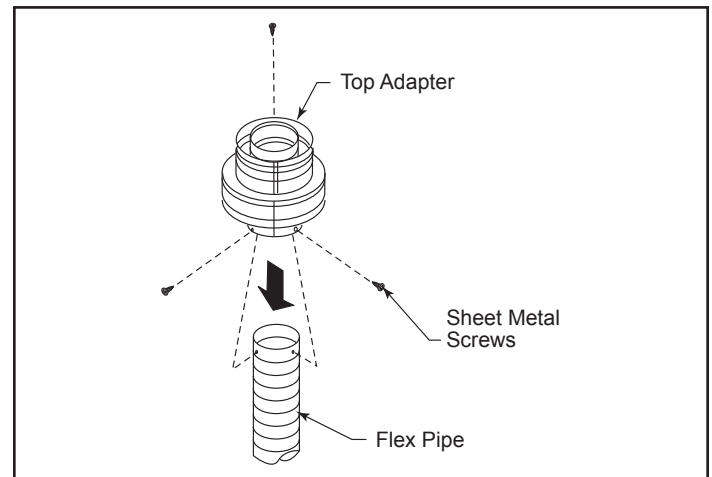

Figure 44
3. Connect the end of the flex pipe section to the underside of the cap adapter you have selected using three (3) sheet metal screws, Figure 44.
5. Connect the 4" flex liner to the cap adapter (985K) using three sheet metal screws, Figure 44.